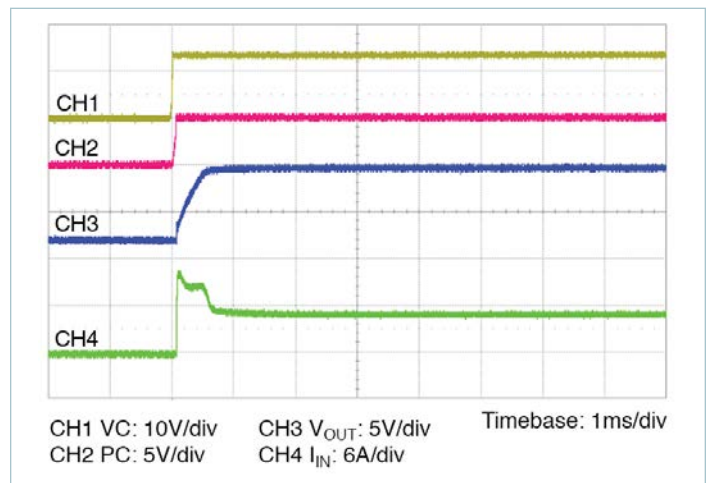

Figure 14 — Start up from application of VC; V_{IN} pre-applied $C_{OUT} = 2300\mu\text{F}$
- **Stand-alone operation (VC applied after V_{IN}):** In this case the VTM output will begin to rise upon the application of the VC voltage (See Figure 14). The Adaptive Soft-Start Circuit may vary the output rate of rise in order to limit the inrush current to its maximum level. When starting into high capacitance or a short, the output current will be limited for a maximum of 1200 μ s. After this period, the Adaptive Soft-Start Circuit will time out and the VTM module may shut down. No restart will be attempted until VC is re-applied or PC is toggled. The maximum output capacitance is limited to 2300 μ F in this mode of operation to ensure a successful start.